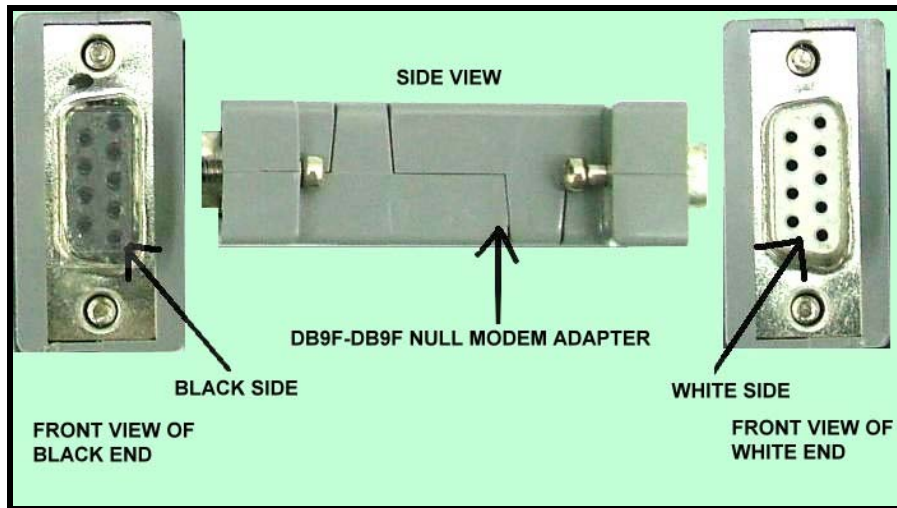

Figure 3: Null Modem Adapter
9.1. Refer Figure 3 for DB9 female-to-female null modem adapter. One end is black while the other is white.